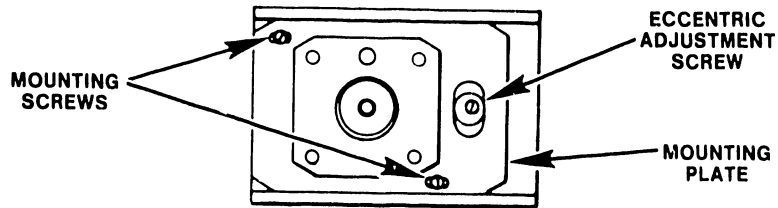

FIGURE 5 HEAD RADIAL ALIGNMENT PLATE
- a. Locate the head radial alignment plate (Figure 5) and loosen the two mounting screws.